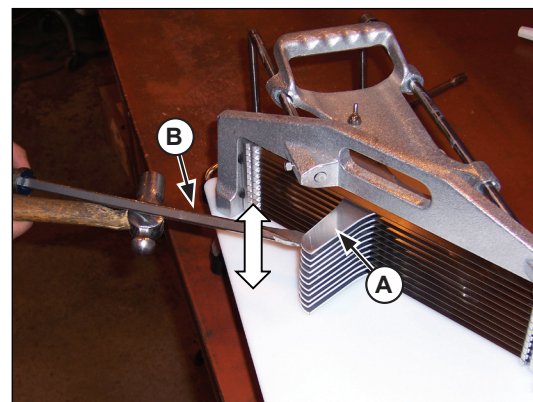

Figure 2. Pusher Head Adjustment Between the Blades.
1. Carefully insert a screwdriver (B) between the slots in the Pusher Head Assembly (A). Gently tap on the screwdriver (B)(up or down) to alter the location of the Pusher Head Fingers so the slide effortlessly through the blades. See Figure 2.